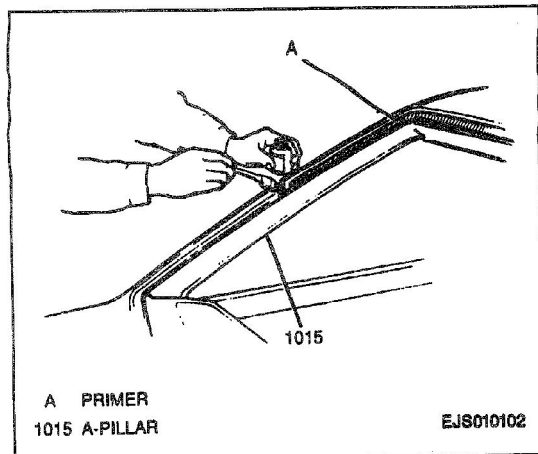

Figure 11—Applying Primer to Body Surface
8. Using a new brush, apply primer #3 to edge of windshield opening where there is bare metal, pinch-welds and scratches **DO NOT** but primer #3 on top of old urethane (Figure 11).